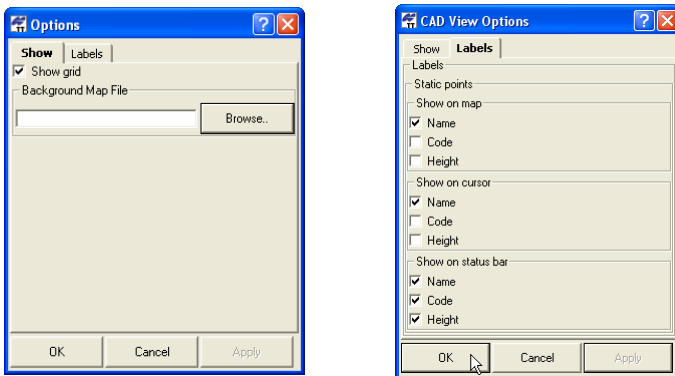

Figure 4-46. CAD View Show and Labels Options
2. On the *Show* tab, enable the desired settings (Figure 4-46 on page 4-43). Click **Apply** to save the settings and make further changes.
3. On the *Labels* tab, enable the desired settings (Figure 4-46).